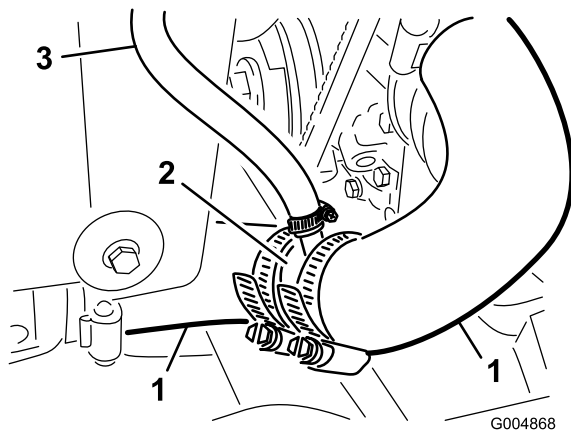
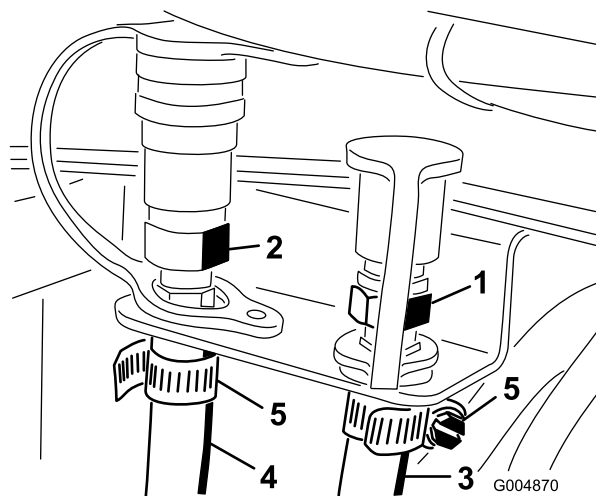
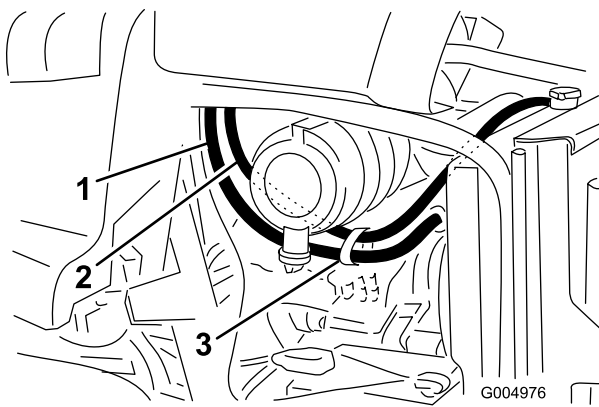

Figure 18
Figure 19
Figure 20
14. Install the tee fitting into the hoses and secure with hose clamps as shown in Figure 18.
15. Connect the 55 inch (140 cm) length of previously cut hose to the new tee fitting in the radiator hose (Figure 18). Secure the hose to the tee fitting with a hose clamp. Route the hose behind the radiator over flow tank, up the right side of the radiator, across the top of the radiator to the left side and under the air cleaner as shown in Figure 19. Insert a hose clamp onto the hose and connect the hose to the nipple coupling (Figure 20). This is the return hose.